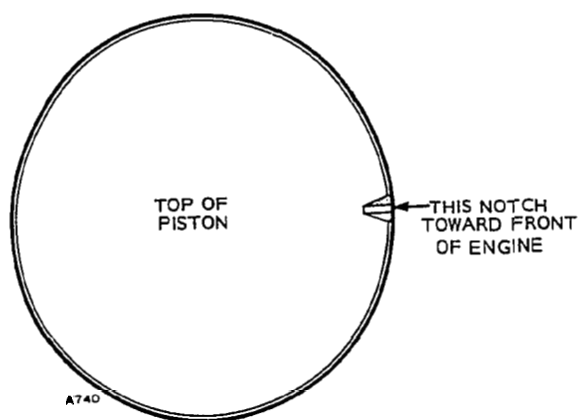

FIGURE 93. PISTON TOP IDENTIFICATION
4. Oil cylinder walls and pistons. Install each piston in proper cylinder using a suitable installer. Each assembly should be installed with V mark on piston toward front of engine. The word "Front" may be found on some piston tops. See Figure 93.